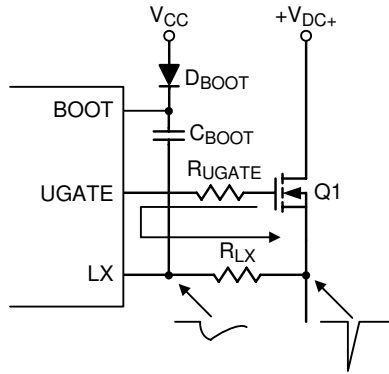

Figure 5. LX Pin Resistor
- ▶ In Figure 5, the LX pin voltage drop can be improved by adding  $R_{LX}$  ( $R_{LX} = 1$  to 10Ω), because the  $dv/dt$  is affected by  $(R_{LX} + R_{UGATE})$ .